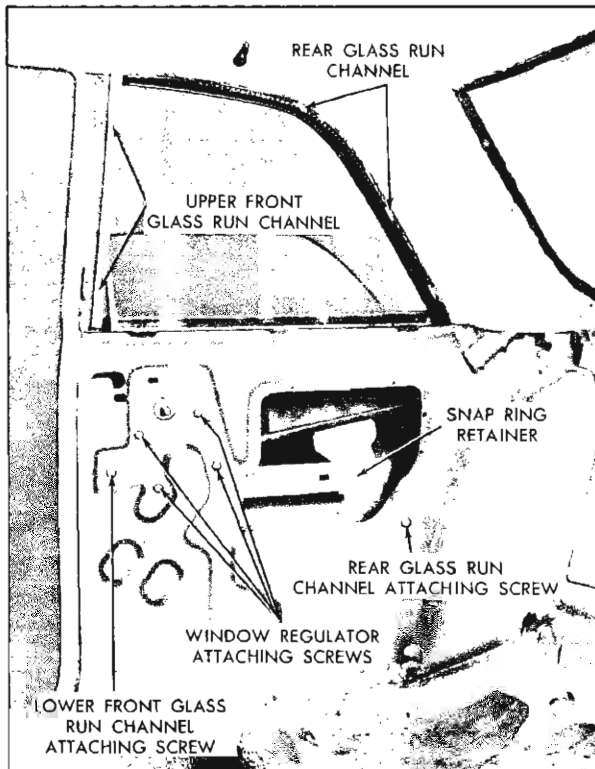

Fig. 4-5 Rear Quarter Hardware Manual—"11" Style
2. Remove snap ring retainer securing regulator lift arm to pivot pin on window lower sash channel (Fig. 4-5).
a. Operate the window to the "full up" position and loosen the window regulator attaching screws (Fig. 4-5).
a. Loosen rear glass run channel attaching screw (Fig. 4-5).
4. Remove regulator attaching screws (Fig. 4-5) and remove regulator through access hole.
2. Remove lower front glass run channel attaching screw (Fig. 4-5) and remove run channel through access hole.
2. Remove rear glass run channel attaching screw (Fig. 4-5).
2. Disengage window assembly from regulator lift arm by removing snap ring retainer (Fig. 4-5).